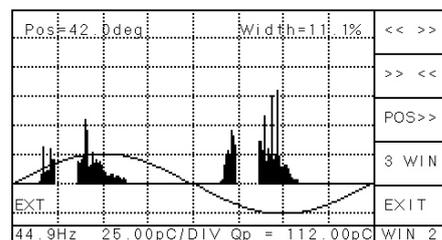

Fig. 5: Phase window
- **pair of phase windows** of adjustable width and phase position for the suppression of phase stable noise pulses (Fig. 5),